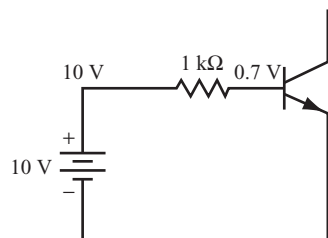

FIGURE 3.10
**8** For the circuit shown in Figure 3.10, because the 10 volts supplied by the battery is much greater than the 0.7-volt diode drop, you can consider the base-emitter diode to be a perfect diode and thus assume the voltage drop is 0 volts.